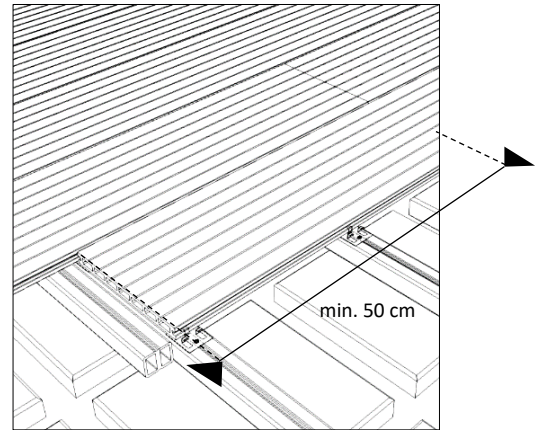

FIG. 7
- To guarantee a stable terrace, it is advisable to mount the decking boards in a staggered pattern (Fig. 7).